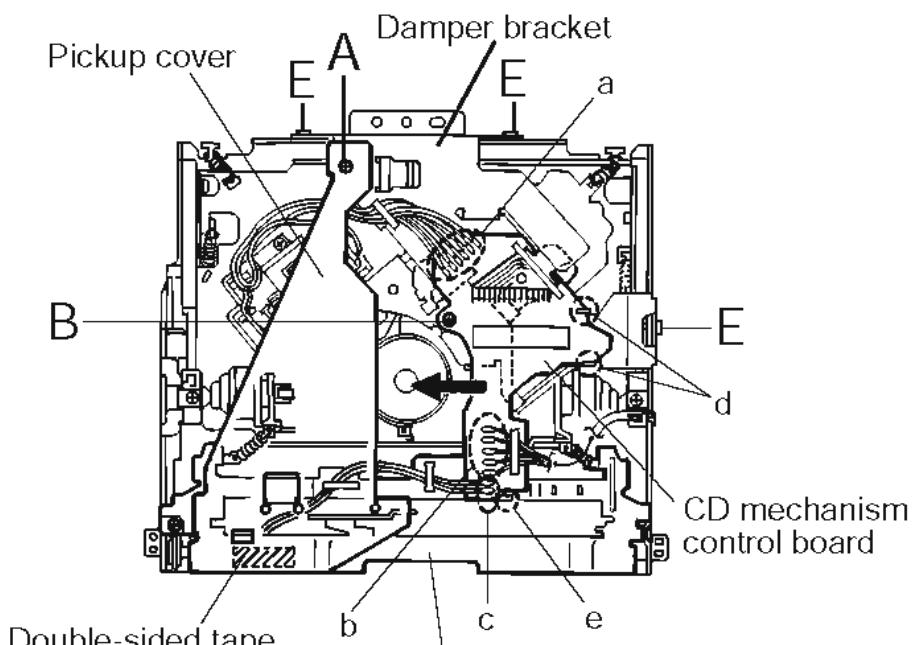

Fig.1
■ Removing the CD mechanism control board (See Fig.1 and 2)
■ Removing the CD mechanism assembly (See Fig.1, 6 to 9)